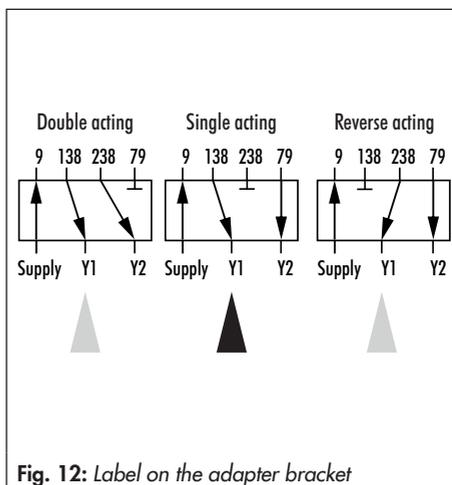

Fig. 12: Label on the adapter bracket
3. Fasten the turnboard (7) to the adapter bracket (6). Select the required switching function from Fig. 12 by turning the turnboard.